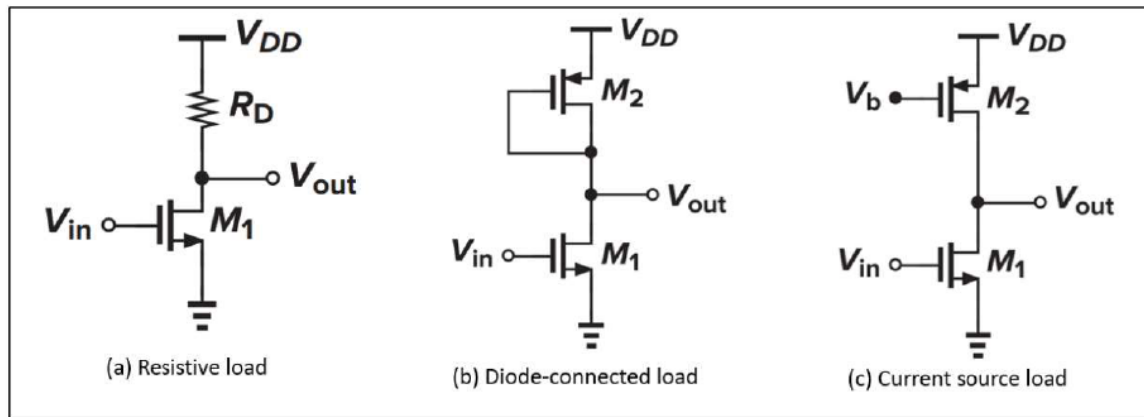

Figure 8. Common source stage topology
- Figure 8(a), verify the sizes of M1 and R_D that ensure $I_{D,M1} = 50\mu A$ with $V_{in} = 0.7V$. In addition, check V_{GS} , V_{DS} , V_{OV} of M1 to ensure it is biased in saturation.
- Figure 8(b), verify the sizes of M1 and M2 that ensure $I_{D,M1} = 50\mu A$ with $V_{in} = 0.7V$. In addition, check V_{GS} , V_{DS} , V_{OV} of M1 and M2 to ensure it is biased in saturation.
- Figure 8(c), verify the sizes of M1, M2 and voltage V_{bias} that ensure $I_{D,M1} = 50\mu A$ with $V_{in} = 0.7V$. In addition, check V_{GS}, V_{DS}, V_{OV} of M1 and M2 to ensure it is biased in saturation.